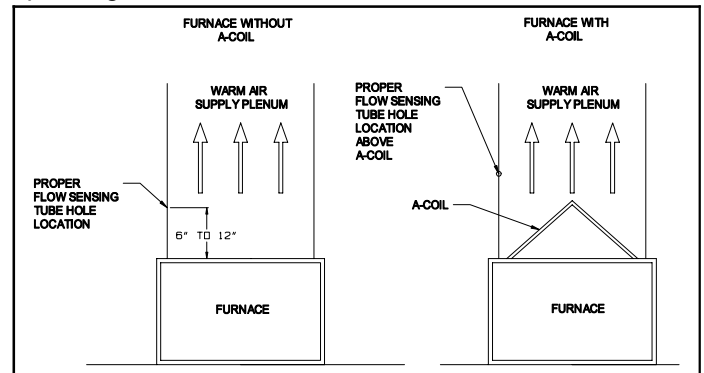

Figure 2
- b. If the furnace DOES have an air conditioner "A" coil at the warm air outlet of the furnace; drill a 1/4" hole into the warm air supply plenum high enough above the "A" coil such that it will not contact the "A" coil when installed. Use care when drilling the hole to prevent damaging the "A" coil. (See Figure 2).